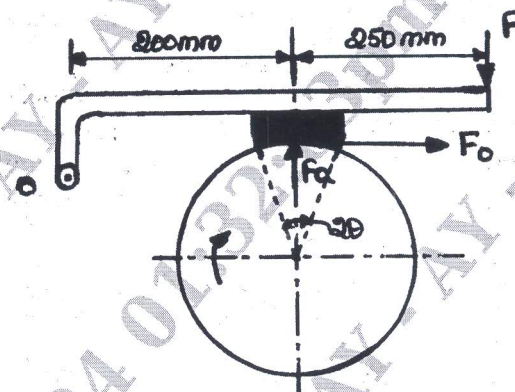

Fig Q5(b)
- b. A single block brake is shown in Fig Q5(b). The drum diameter is 250mm. The contact angle is 90° . If an operating force of 700N is applied at the end of the level and the coefficient of friction is 0.35 determine the torque that may be sustained by the brake.